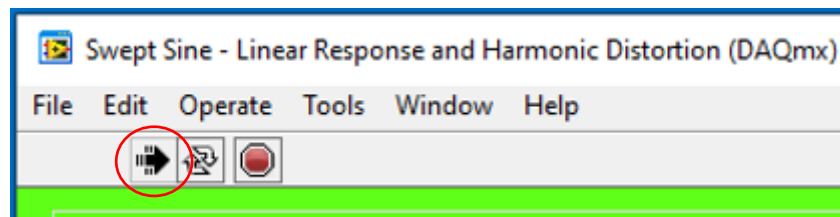

Fig. 9. A button to start the test
6. Run the test by clicking the arrow button on the "Swept Sine" window (Figure 9), and adjust the power using the dial on the front panel of the power amplifier to set a parameter.